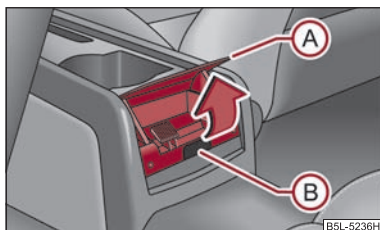

Fig. 85 Low centre console: Rear ashtray
- Grasp the ashtray cover at the lower edge (A) and fold it open in the direction of arrow ⇒ fig. 85.